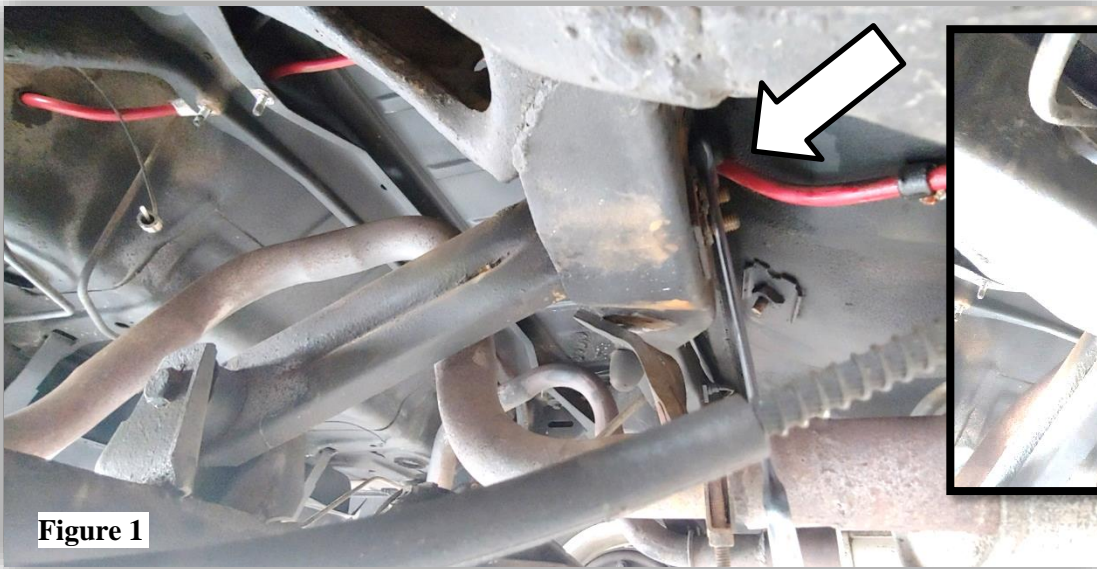

Figure 1
4. Remove the three front trailing arm bracket nuts from the backside of the crossmember using an 11/16" socket or wrench. **(Figure 1)** If the car has two upper trailing arms it is suggested to remove/install one at a time.